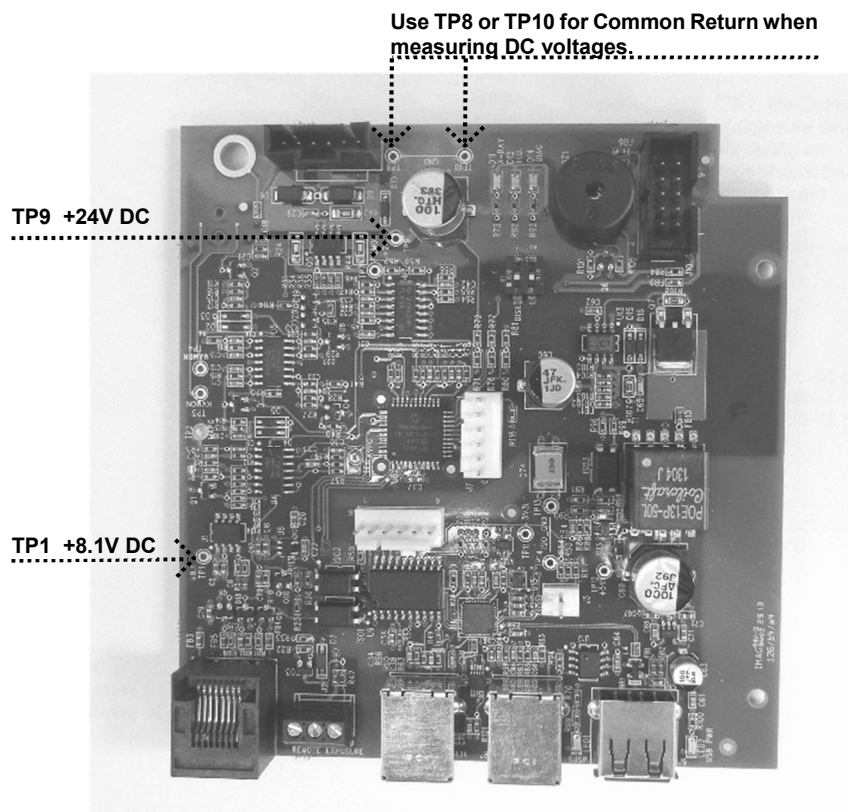
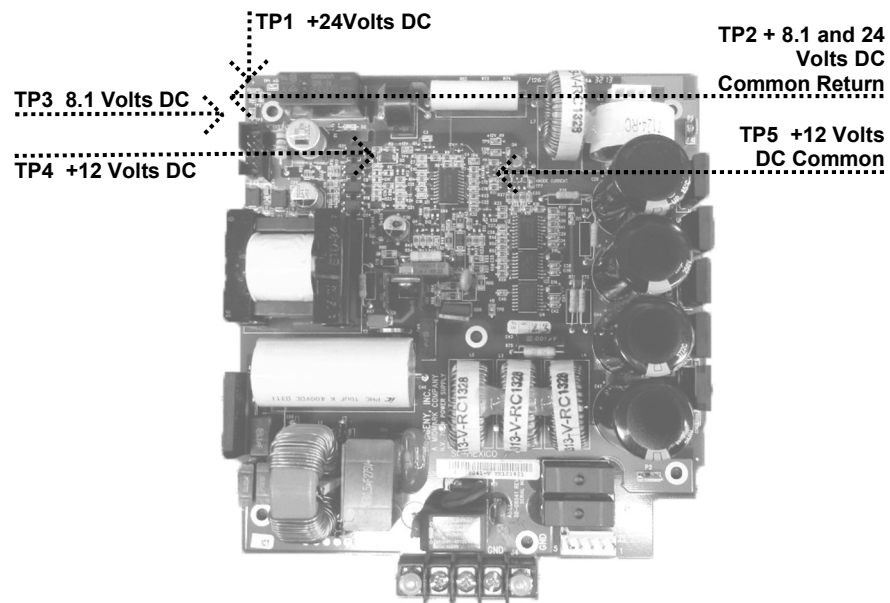

Figure 62
Figure 63
2. On the Power Supply Board, Figure 63, use TP2 as a common test point to check TP1 +24 volts DC and TP3 8.1 volts DC. Then, use TP5 as the common return to check TP4 for the presence of +12 volts DC, as shown in Figure 62. Should any of these voltages not be present, replace the Power Supply Board.